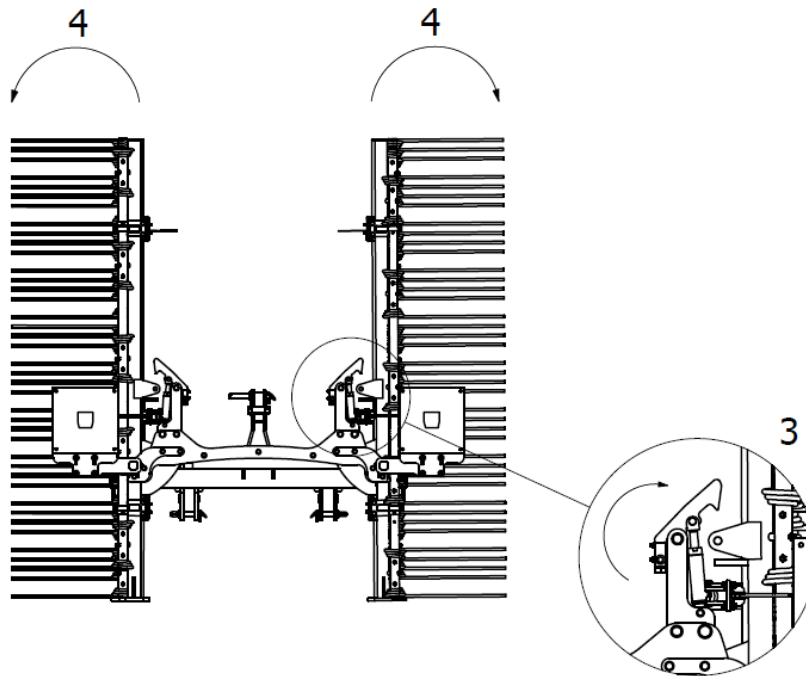

Fig. 11 Implement opening sequence: 3- release the hook of the hydraulic side extension lock mechanism, 4- open the implement side extensions.
3. Then, after making sure that the hook of the hydraulic side extension lock mechanism allows the machine side extensions to be unlocked, proceed to open them fully (Fig. 11).